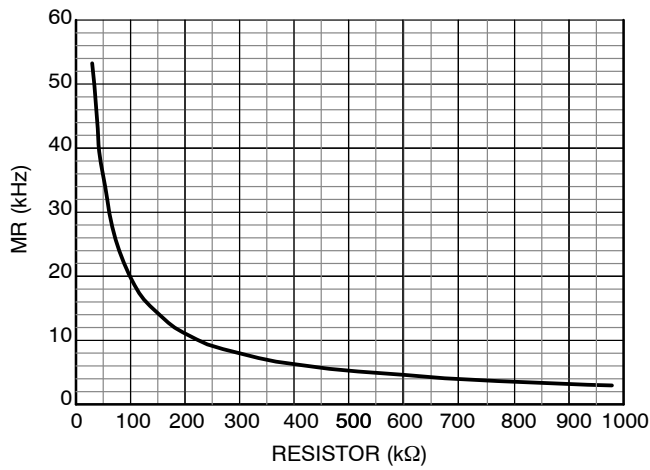

Figure 2. MREXTR vs. MR
*Refer to Figure 2. MREXTR vs. MR graph for different Analog Modulation Rate(MR).